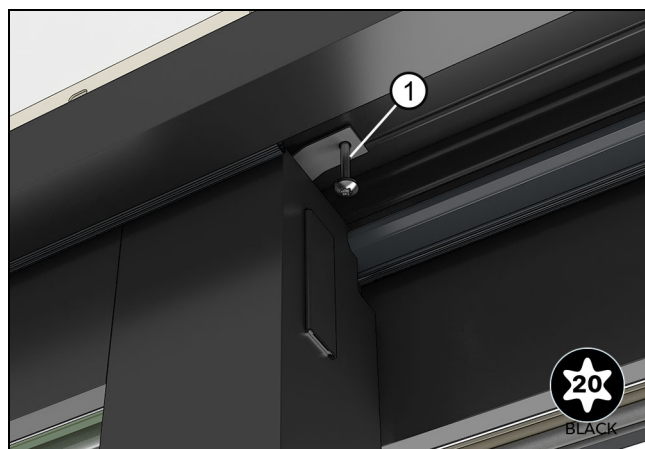

Figure 85
9. Fasten through the bracket into the head jamb framing with a #10 x 3" (76) installation screw. See Figure 85.